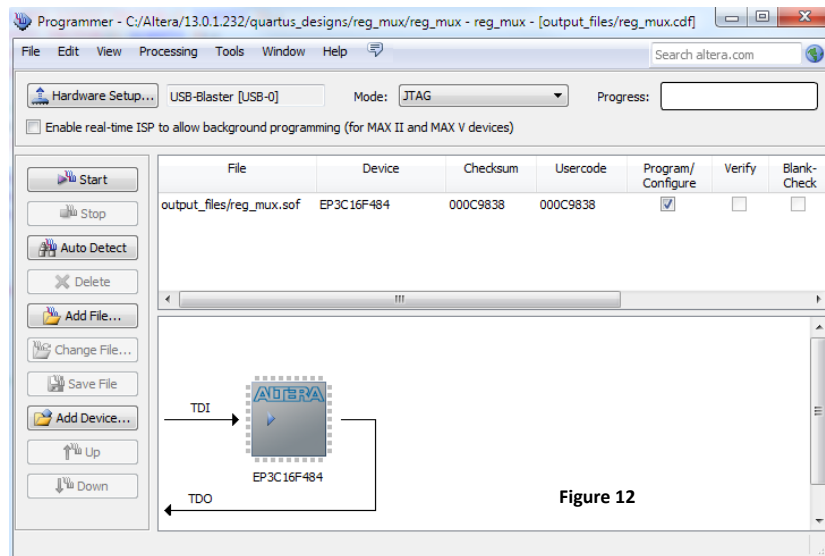

Figure 12
b) In Quartus II, click the Programmer icon  or select **Tools > Programmer**, which opens the window of figure 12. Note the following: